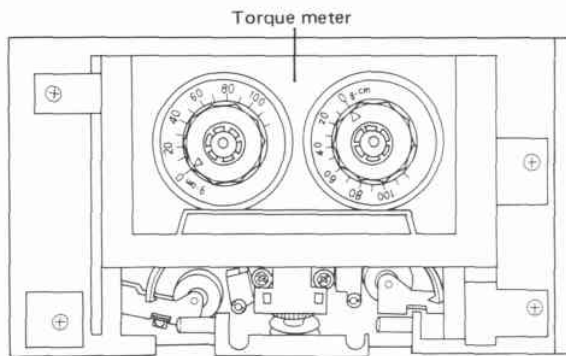

Fig. 11-6 Take-up torque adjustment
5. Check that the take-up torque is within $45 \pm 10 \text{ g-cm}$ (Fig. 11-6).